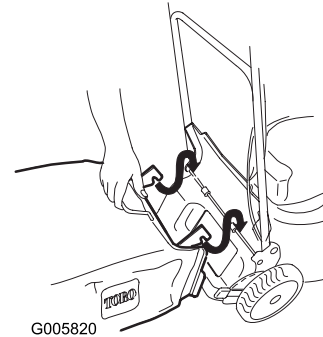

Figure 26
6. Install the bag (Figure 26).